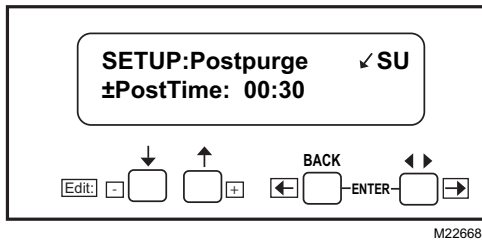

Fig. 8. Setting Post Purge time.
8. "Getting Data" will be momentarily displayed, followed by the screen shown in Fig. 8.